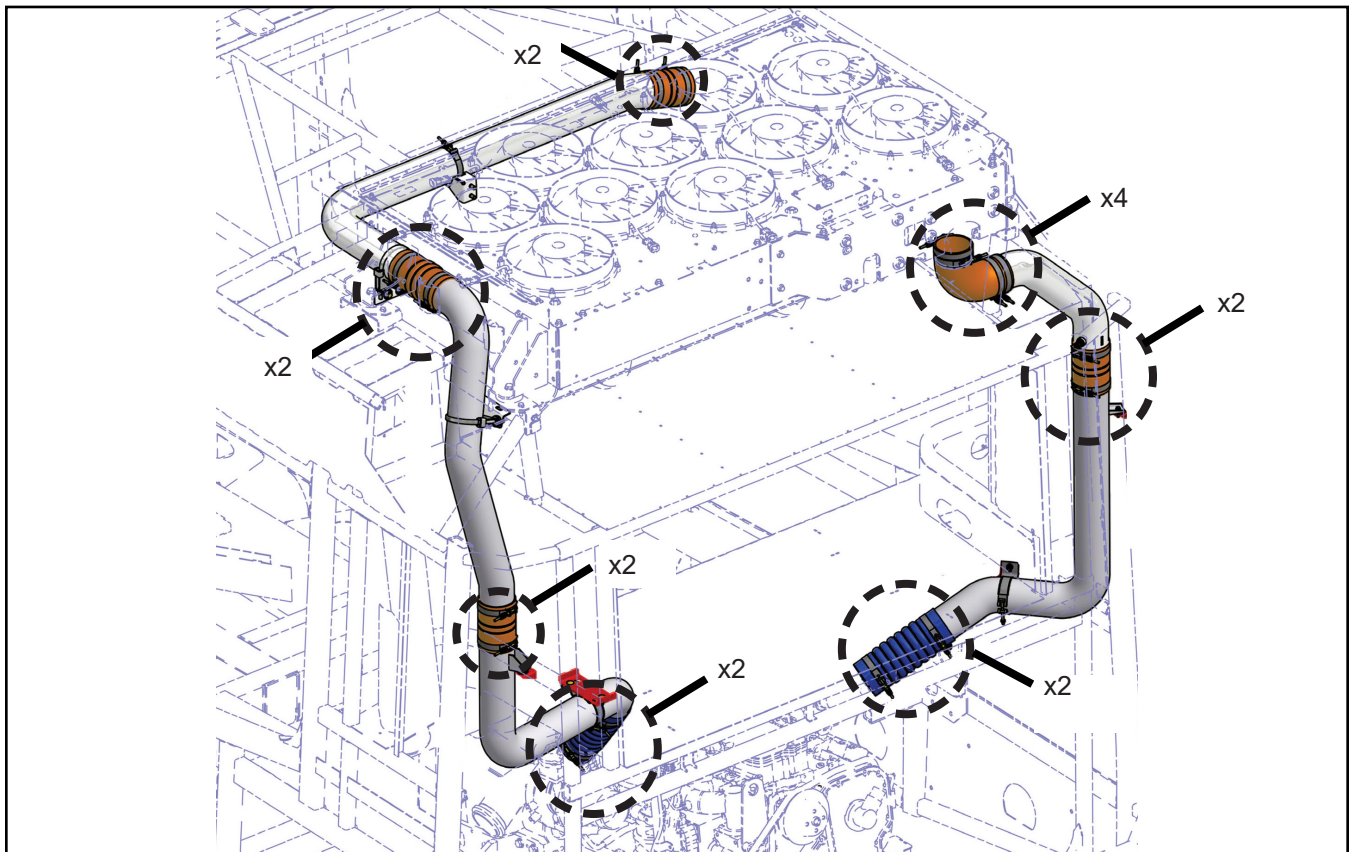

Figure 1 - CAC pipes Clamp Locations
- 1.8. Repeat for all clamps shown in Figure 1, for a total of 16 clamps.